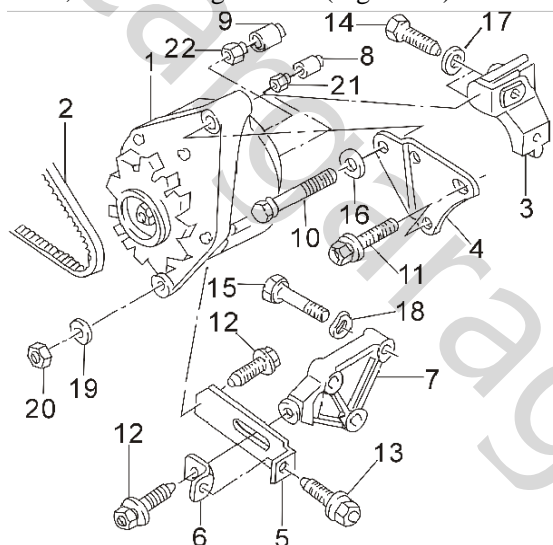

Fig. 12-23 Generator and Components Related to its Installation
(1)Removal of generator: after loosening the fastening bolts on front and rear supports and fastening bracket of generator, remove the generator (Fig.12-23).